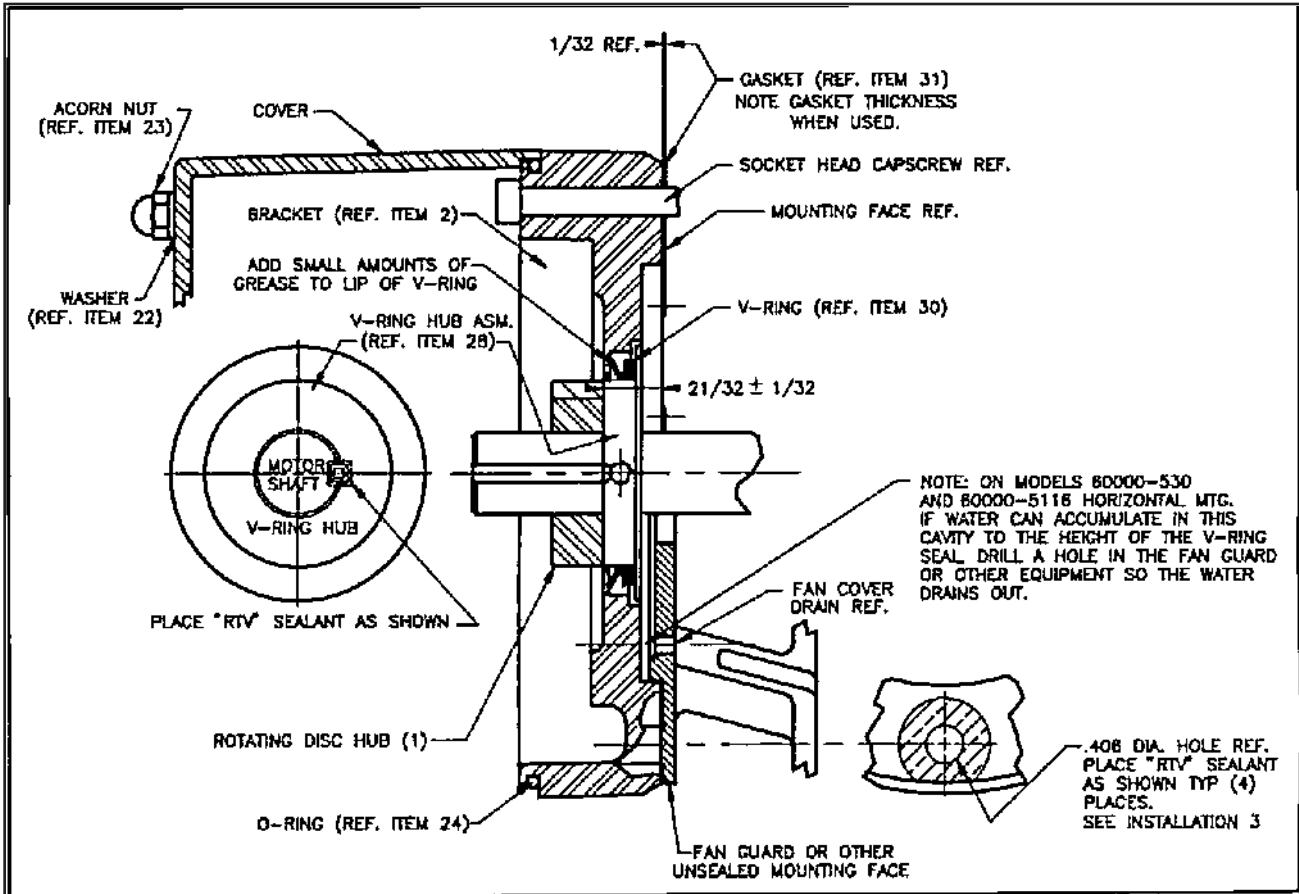

Figure 2
Numbers in parentheses refer to parts illustrated in Figs. 2, 4 and 10.
1. Place rotating disc hub (1), with key, onto motor shaft with part number facing away from motor to dimension shown in Fig. 2 ($2\frac{1}{32} \pm \frac{1}{32}$). Measure from brake mounting face as shown.
1. Remove V-ring (30) from V-ring hub assembly (28).
2. Place V-ring hub assembly (28) onto motor shaft with part number facing away from motor to dimension shown in Fig. 2 ($2\frac{1}{32} \pm \frac{1}{32}$).
4. Replace V-ring (30) onto V-ring hub assembly as shown in Fig. 2. Apply a small amount of grease to lip of V-ring.
5. Place rotating disc hub (1) with key if not already in place, onto motor shaft with part number facing away from motor to dimension shown in Fig. 2 ($2\frac{1}{32} \pm \frac{1}{32}$). Rotating disc hub will butt against the V-ring hub as shown.
1. Remove acorn nuts (23), washers (22), and cover (20). Place brake on motor mounting face aligning hub splines into brake disc splines. Make sure gasket (31) is in place. Drain plug (25) to face down on horizontal models.
NOTE: for models 60000-530 and 60000-5116 only: If gasket (31) does not make contact around mounting face totally (360°), exclude gasket (31) and place RTV sealant around mounting bolt holes to approximately 1" dia. as shown in Fig. 2. Use Dow Corning #739 RTV only; other types may form acetic acid during curing if subjected to water or high humidity. This will cause premature failure of zinc plated parts.
You may have to add drain in fan guard or other equipment as shown in Fig. 2.